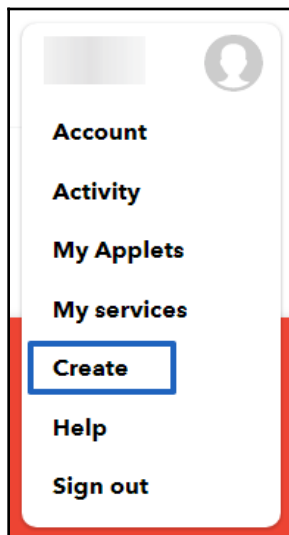

Figure 13.3 – Profile menu
2. In the menu that appears, choose the **My Services** item (refer to *Figure 13.3*).